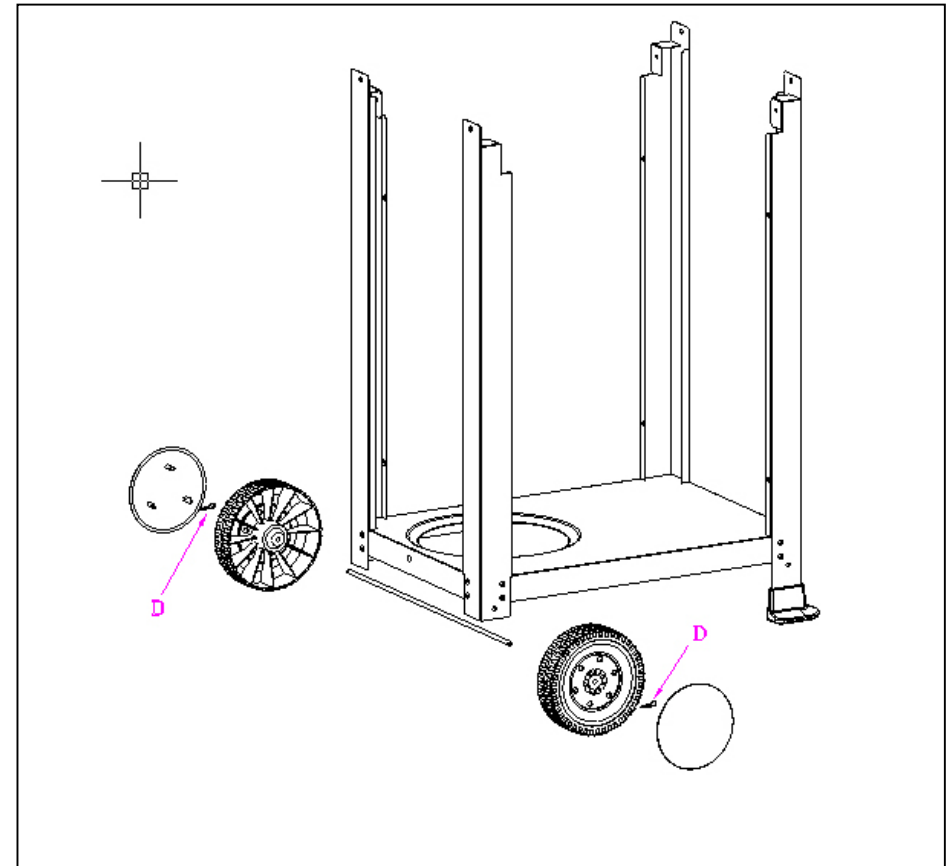

Figure 2
- STEP 2.** Assemble Wheel Assembly with pins (Type D). Attach Wheel Assembly to Legs by axle. (Fig. 2)